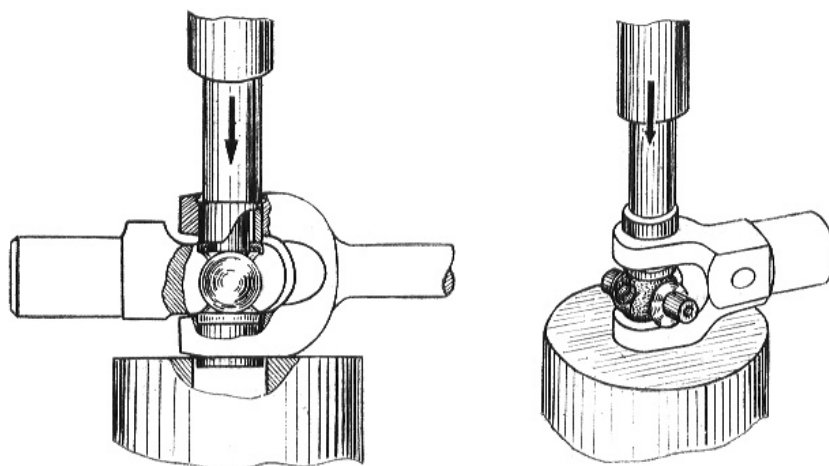

Fig. 65
- Lay the fork on the hand press and press out one of the needle bearings, until the universal joint cross thrusts against the fork, i. e. by pressing-in one of the needle bearings, press out somewhat the other opposite needle bearing through the cross (Fig. 65);